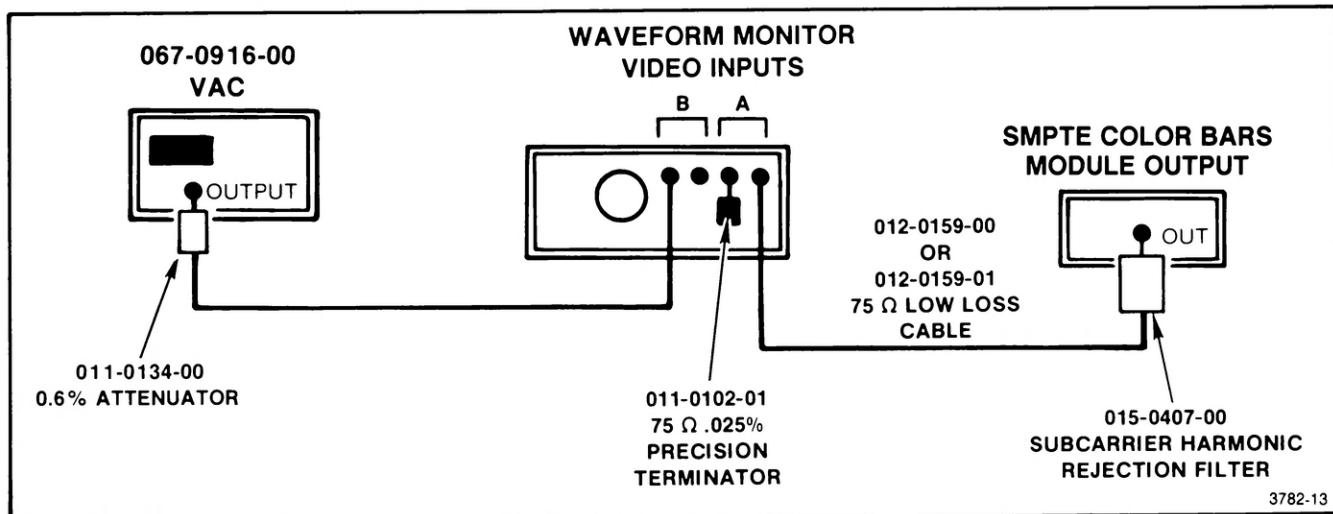

Fig. 2-8. Video Amplitude Calibrator connections for making chrominance amplitude measurements.
- a. Connect the VAC as shown in Fig. 2-8.
- d. Connect the TSG7 Color Bars Module Output, through the Subcarrier Harmonic Rejection Filter, to the 1480 Ch A Video Input. Terminate the other Ch A Video Input with the Precision Terminator (see Fig. 2-8).